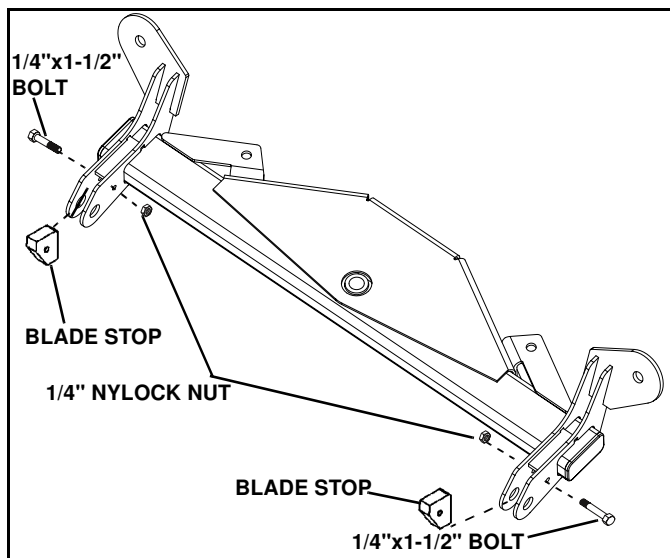

Figure 2-1
2. Place the stops between the lugs on the swing frame. Secure with 1/4" x 1-1/2" bolts and locking nuts. (See Figure 2-1). Bolts and nuts are in the trip stop bag.